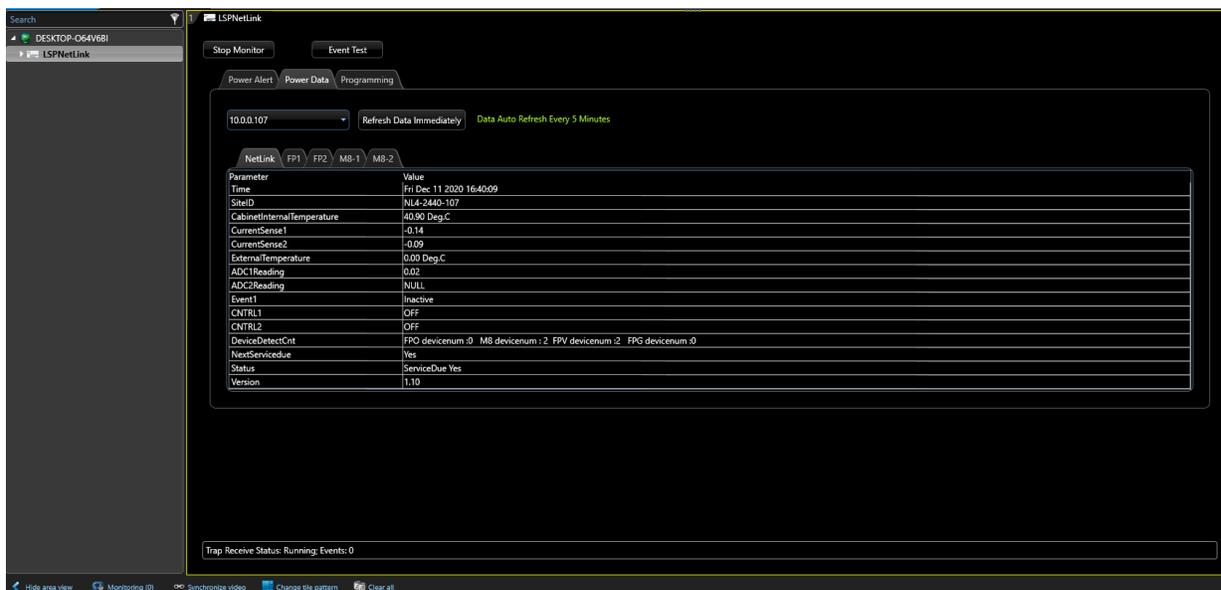

Figure 38
2. Once data is received, tabs for any connected power supply and M8 boards will display. (Figures 38, 39, and 40)